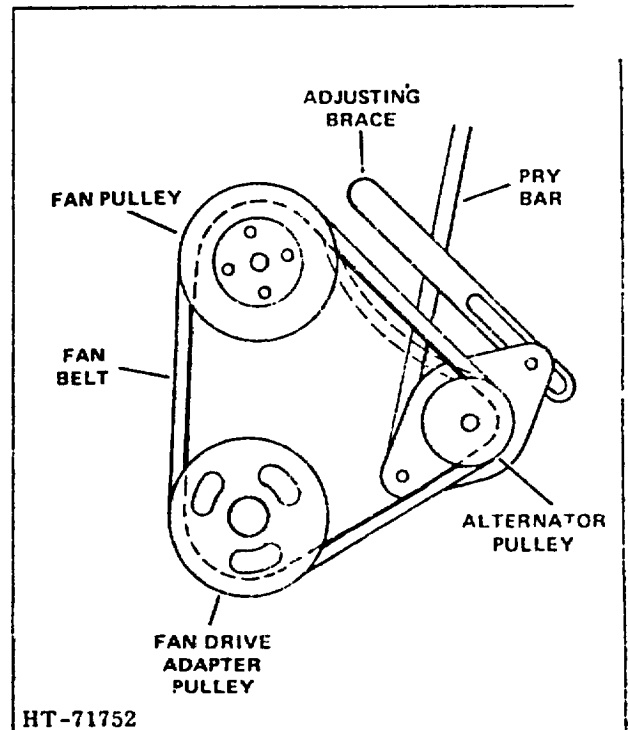

Figure 4. Fan Belt Tension
Be sure to check the mounting bolts for tightness and the belt for alignment, corrosion, tension and wear. Belt tension should be adjusted to allow approximately 3/8" inward deflection of the belt between the alternator pulley and the fan pulley with a force of about 10 pounds. (See Figure 4.)
2. Hold alternator close enough to engine to engage fan belt on alternator pulley, then, using pry-bar as shown in Figure 4, tighten pivot bolt and adjusting brace capscrew for 3/8" belt deflection with about 10 pounds of applied force.